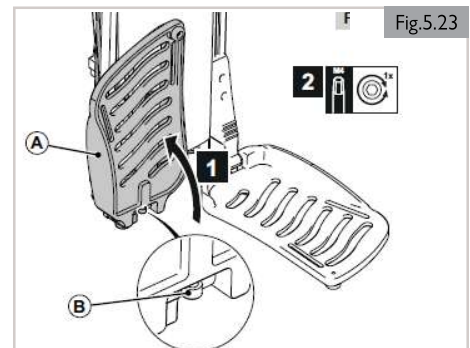

Fig.5.23
4. As with all moving parts be careful not to trap your fingers. (Fig. 5.23)
Ankle angle (Fig. 5.23)